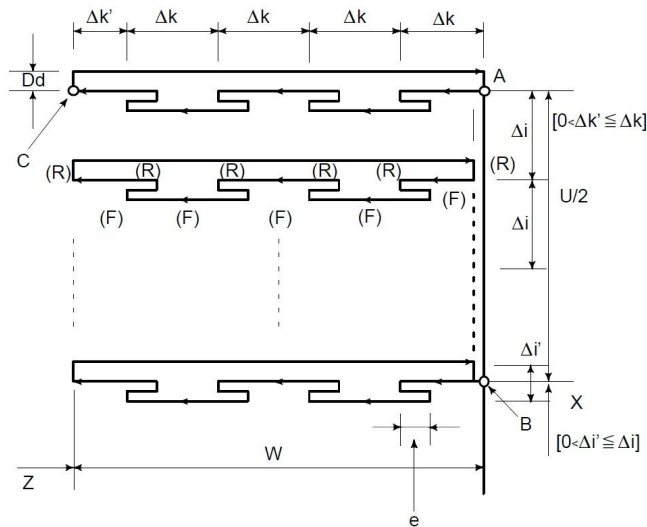

Fig3.9.11 Cutting Path in End Face Peck Drilling Cycle
The following program generates the cutting path shown in Fig3.9.11. Chip breaking is possible in this cycle as shown below. If X (U) and Pare omitted, operation only in the Z axis results, to be used for drilling.
1. While both e and d are specified by address R, the meanings of them are determined by the present of address X (U). When X(U) is specified, d is used.
2. The cycle machining is performed by G74 command with X(U) specification.
**Execution process:(Fig3.9.11)**
① Axial (Z axis) cutting feed  $\Delta k$  from the starting point of G74, feed in Z negative direction when the coordinates of cutting end point is less than that of starting point in Z direction, otherwise, feed in Z positive direction;
② Axial(Z axis) rapid tool retraction e and its direction is opposite to feeding direction;
③ Cutting feed( $\Delta k+e$ ) again in Z direction, the end point of cutting feed is still in it between starting point An of axial cutting cycle and end point of axial tool infeed, cutting feed ( $\Delta k+e$ )again in Z direction and execute ②; after cutting feed ( $\Delta k+e$ )again in Z direction, end point of cutting feed is on Bn or isn't on it between An and Bn cutting feed to Bn in Z direction ,then execute ④;